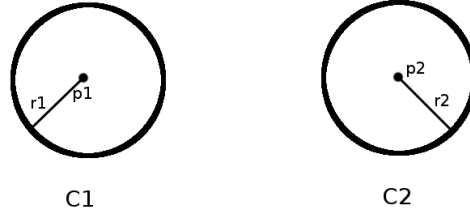

Figure 4: Setup for computing tangents
Consider the center of C_1 as $p_1 = (x_1, y_1)$, the center of C_2 as $p_2 = (x_2, y_2)$ and so on (Figure 4).
1. Draw your circles C_1 and C_2 as before (Figure 4).